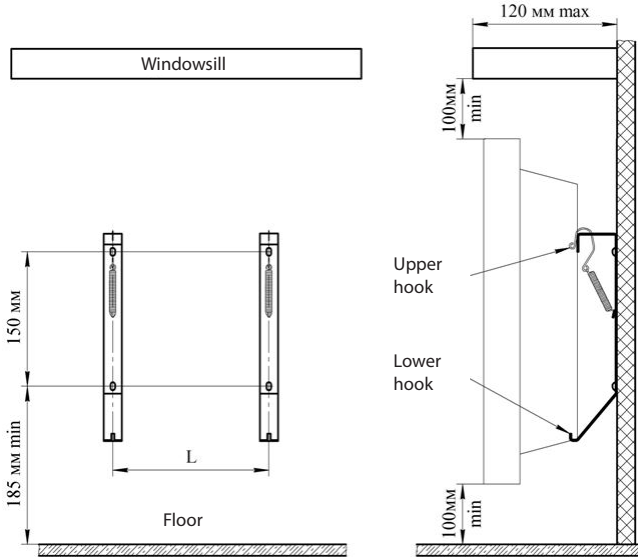

Fig. 1
5.4 For stationary installation of the convector, mark the mounting holes on the wall, referring to Figure 1 and Table 2. Fix the brackets for installing the convector in any way possible, ensuring their reliable fastening during the entire life of the convector.
Align the rectangular holes on the back of the convector with the upper hooks (Fig. 1) of the brackets and put the convector on the hooks.
**Warning!** It is strictly prohibited to turn on and operate the convector without fixing it to the brackets on the wall or on the floor without the installed supports. Turning on and operating the convector is allowed only in the position indicated in Fig. 1 (intake grid down). When you turn on the convector for the first time, the smell of evaporation of preservation materials is possible. It is recommended to ventilate the room.